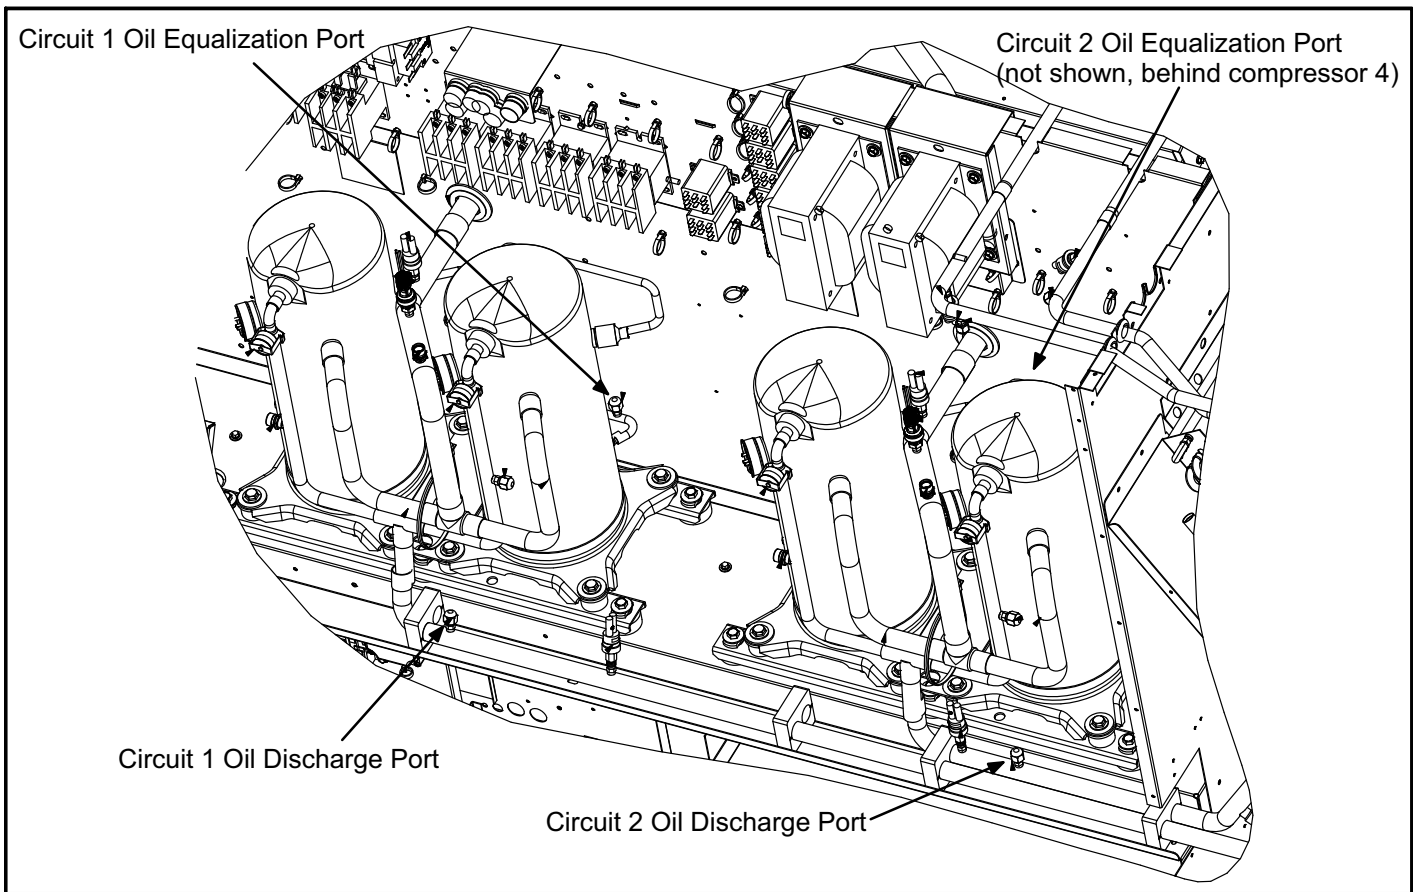

FIGURE 31
- 1- Run the unit in full load (both compressors running) for a minimum of thirty (30) minutes or until compressor sump superheat is above 20°F.
- 4- With the unit running in full load, connect the high side manifold gauge hose to the open pressure tap fitting on the common discharge line (see Figure 31). Briefly crack the high side manifold gauge valve to purge the high side and middle manifold gauge hoses.
- 10-Lightly thread the hose coming from the oil container onto the pressure tap fitting provided on the oil equalization line located near the base of the compressors (See Figure 31). Do not depress the Schrader Valve..